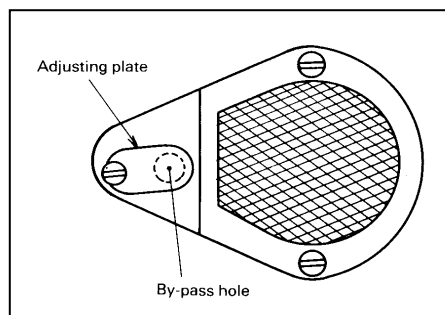

Fig.9
12、 Adjustment of oil pump (Fig.9):